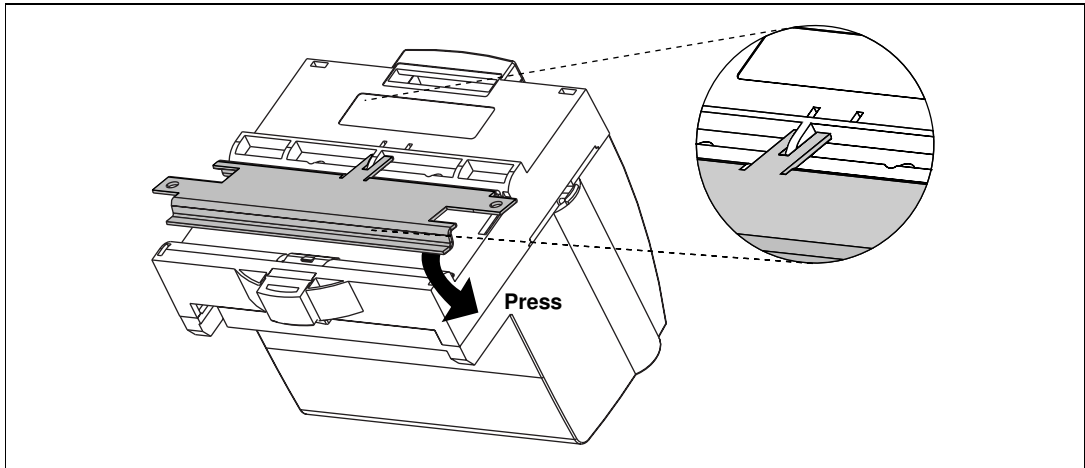

Figure 2-8. Installing the Network Panel Mount Accessory
2. Snap the panel mount accessory onto the module, as shown in Figure 2-8.